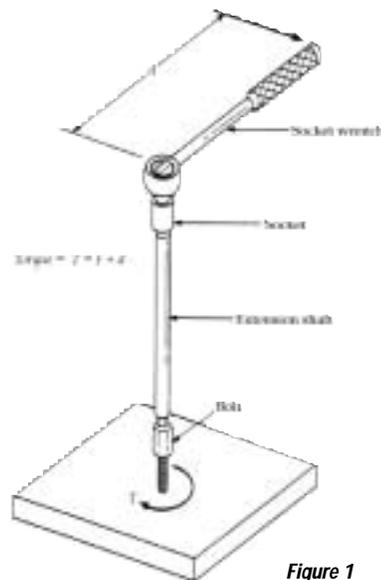

Figure 1
As the head of a bolt is turned with a wrench, the force applied (F) on the wrench's handle at a distance (d) from the center of the bolt produces torque (T). An example of this can be seen in Figure 1. As the applied torque turns the bolt, the engaged threaded portion of the bolt pulls the bolt one thread pitch distance with each turn. Once the bolt's head touches the joint surface, the frictional forces between these two surfaces will begin to resist the applied torque.